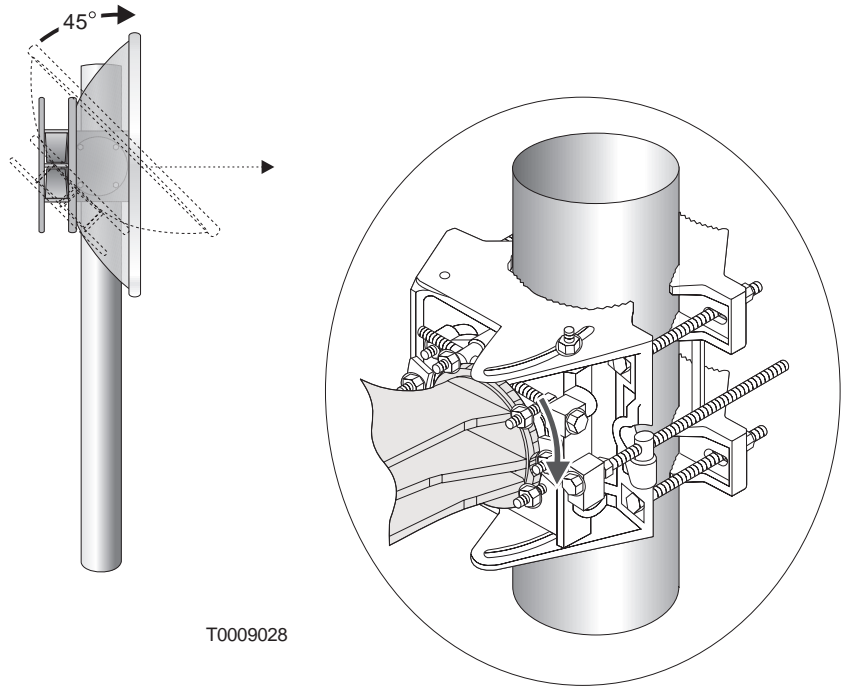

Figure 6-11 Rotating the antenna to the upright installation position
4. Rotate the antenna approximately 45° toward the HT, to the upright (or nearly upright) position, as shown in figure 6-11—then **finger tighten** the antenna bracket locking nuts. The antenna is now “captured” by the antenna mount. However, because the antenna bracket nuts are not fully tightened, you can rotate the antenna to adjust its elevation.